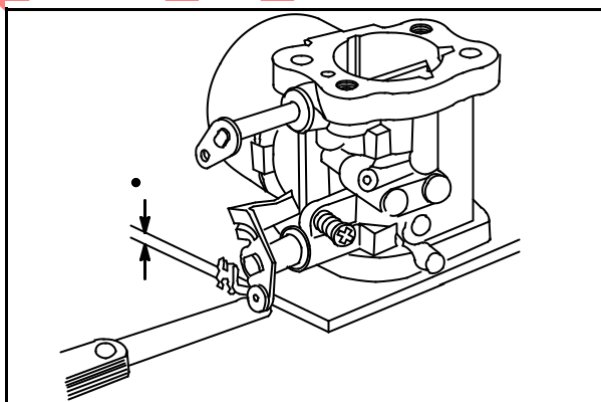

Fig. 21
Lay carburetor on flat surface and check throttle and choke shaft clearance (1) as shown, **Fig. 21**.